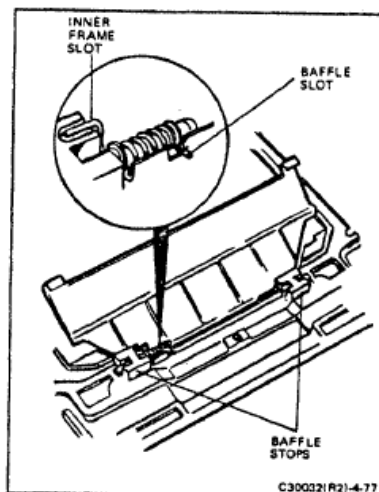

FIGURE 4-77 BAFFLE HINGE SPRING
4. Refer to Figure 4-77. Install the spring on the right-hinge pin.
5. Engage the shorter of the two spring extensions into the slot on the lip of the baffle (Figure 4-77).
6. Use a dental pick or other suitable tool and hook the longer spring extension into the slot provided for it on the inner frame (Figure 4-77). Check the spring action of the baffle. It must be completely free — no evidence of binding is tolerable. Also, when in the raised position, the baffles should rest uniformly on the baffle stops of the inner frame.